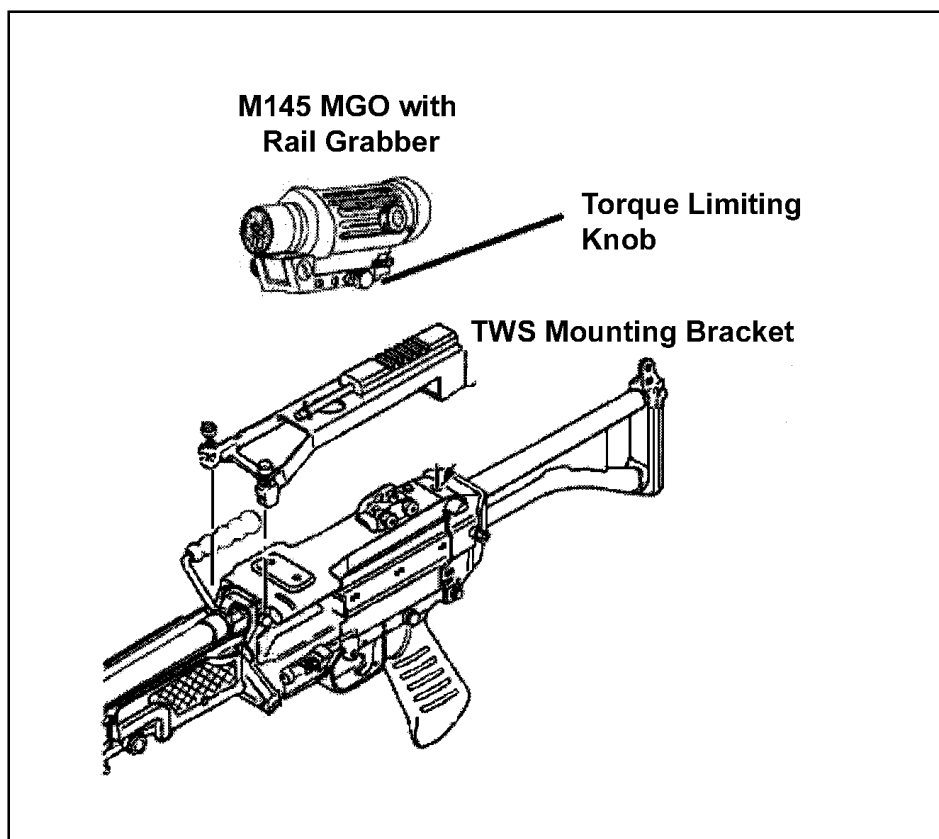
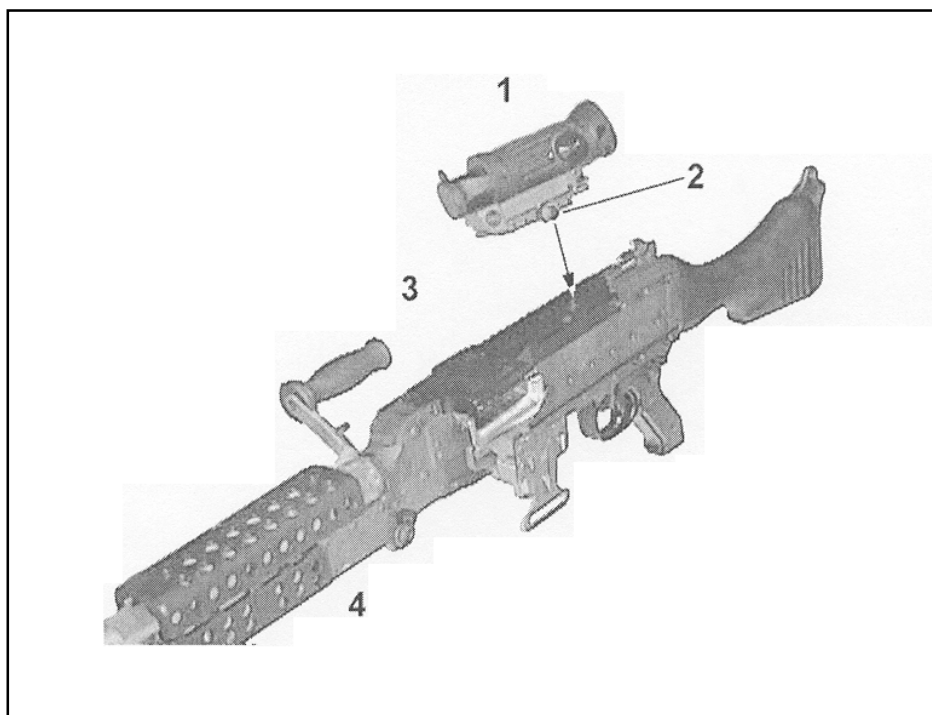

Figure G-38. Mounting the MGO to the M249.
Figure G-39. Mounting the MGO the M240B.
a. Back off on the torque limiting knob just enough for the rail grabber to go over the rail. Do not force the torque limiting knob past its intended stop. Mount the M145 straight telescope firmly over the rail. Ensure that the mount is seated squarely over the rail. Tighten the torque limiting knob (clockwise) until it rotates with two clicks. Ensure that the mount is securely fastened before commencing eye relief adjustment. The sight is now mounted to the weapon about 3 inches (70 mm) in front of the firing eye (Figure G-38 [M249] and Figure G-39 [M240B], page G-38). Assume a comfortable firing position and achieve a good stockweld (at trigger pull length) with both eyes closed. Open the sighting eye and compare the view through the scope with the following figures: